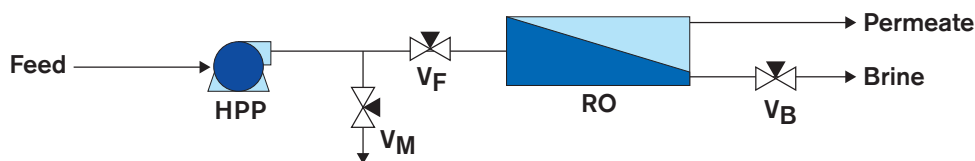

Figure TMM-220-2: Centrifugal pump system with constant speed motor
- 2) Centrifugal pump system with a constant speed motor (**Figure TMM-220-2**)